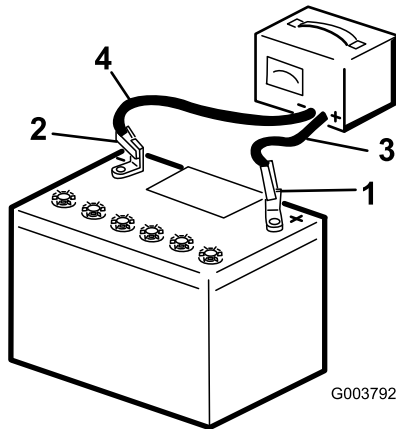

Figure 36
2. Charge the battery for 10 to 15 minutes at 25 to 30 A or 30 minutes at 4 to 6 A (Figure 36). Do not overcharge the battery.
3. When the battery is fully charged, unplug the charger from the electrical outlet, then disconnect the charger leads from the battery posts (Figure 36).